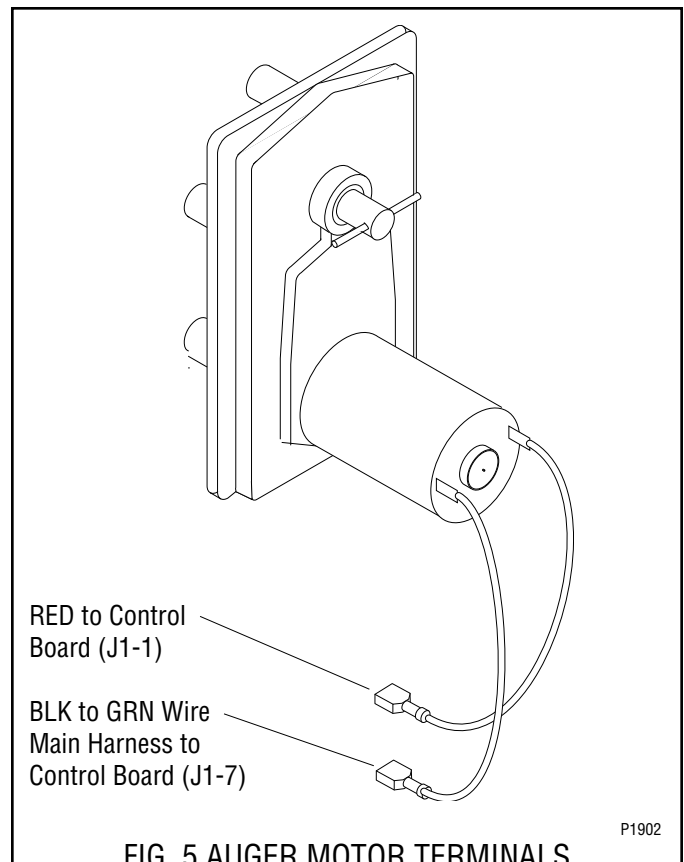

FIG. 5 AUGER MOTOR TERMINALS
8. Connect the wires from the auger motor to the terminals in the main wiring harness. See Fig. 5.